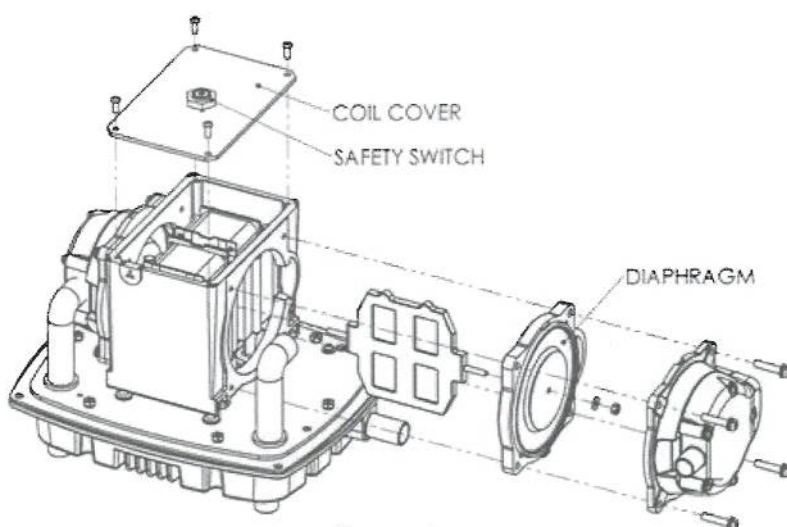

Figure 3
- H. Loosen the four screws around the coil cover, and take the cover off. (As shown in figure 3)